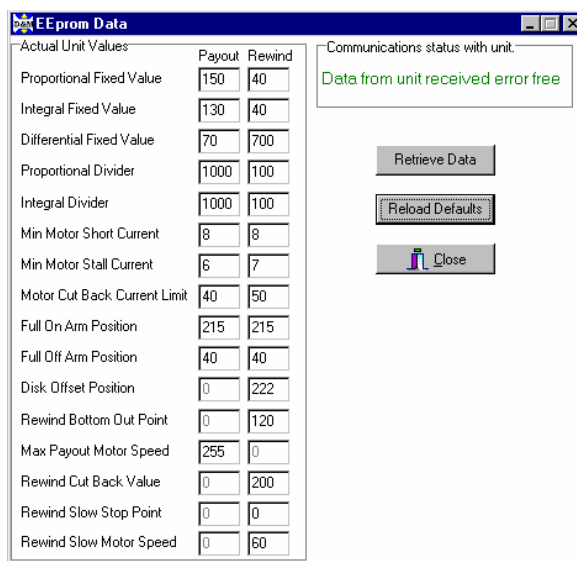

Figure 7
7. Pick the Reload Defaults Button (figure 7).